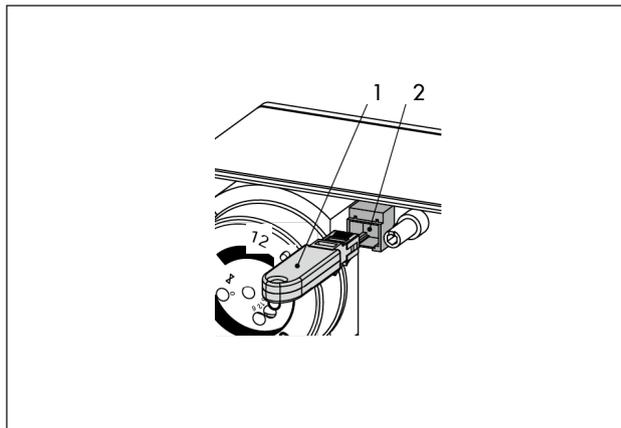

Fig. 27: Connecting actuator and memory pen
The memory pen is connected to the actuator as shown in Fig. 27. The TROVIS-VIEW Operating Instructions ▶ EB 6661 describe how to transfer data.
1. Plug the memory pen into the serial interface of the actuator (Fig. 27). The yellow LED on the actuator indicates that the data logging is being prepared (see Chapter 8.4). A change in the blinking pattern of the yellow LED indicates that data are being saved to the memory pen.